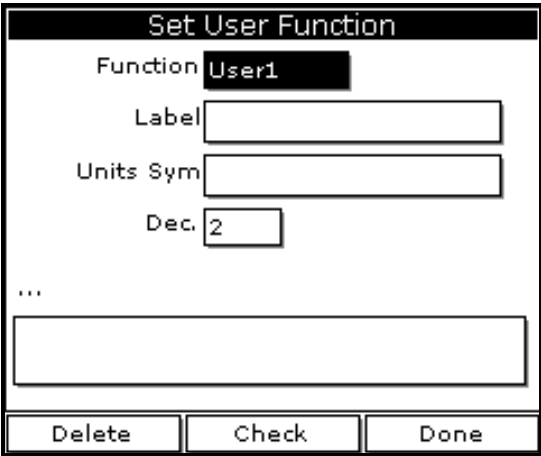

Figure 24: User Functions Window
- 3. Use the arrow key to scroll to User Functions and press [ENTER]. A screen similar to Figure 24 appears.